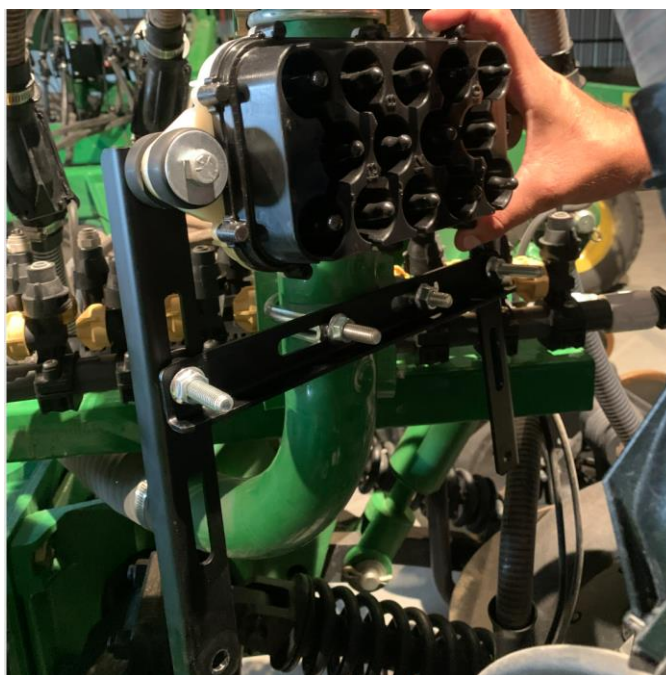

Figure 10: ECU installed on a tower (horizontal installation)
4. Use 3/8" x 1" bolts (356060-000400), washers (352012-000031), and locknuts (352011-000045) to install a third bracket across the center of the two brackets, as shown in Figure 10.